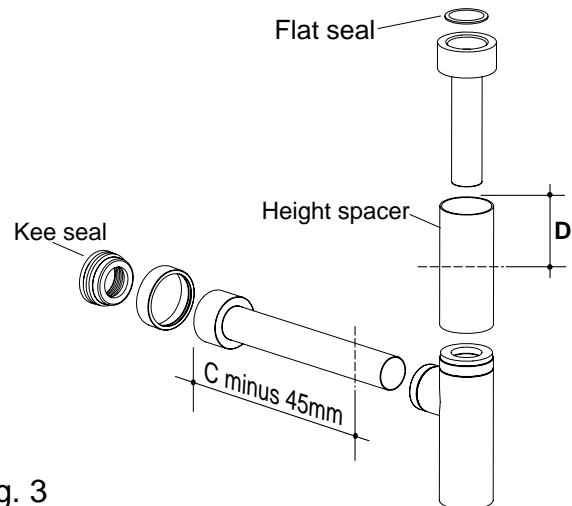

Fig. 3
5. Cut the height spacer, make it shorter by the height difference **D**, as detailed in Fig. 3